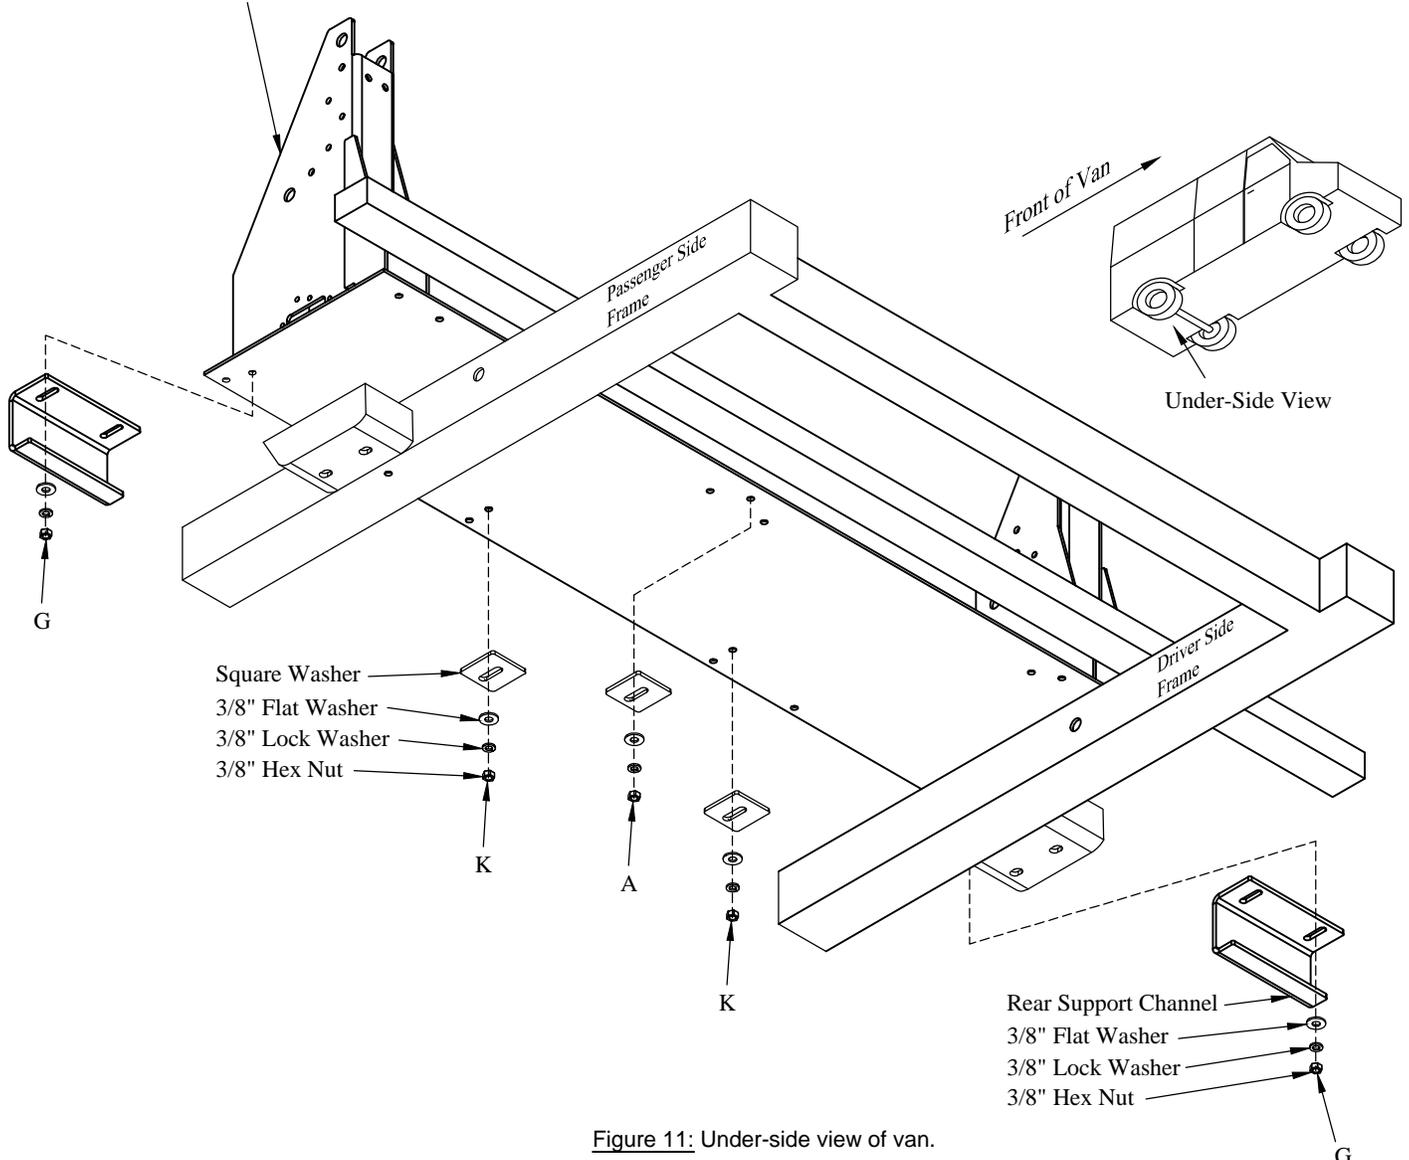

Figure 11: Under-side view of van.
4. Install two (2) 3/8" x 2" bolts with 3/8" flat washer at "G" locations, from the top side into the rear support channels (Figure 11).
6. Insert two (2) 3/8" x 2" bolts at "K" locations in the base plate, down through van floor (Figure 11).
8. Insert two (2) 3/8" x 2" bolts at "K" locations in the base plate, down through van floor (Figure 11).